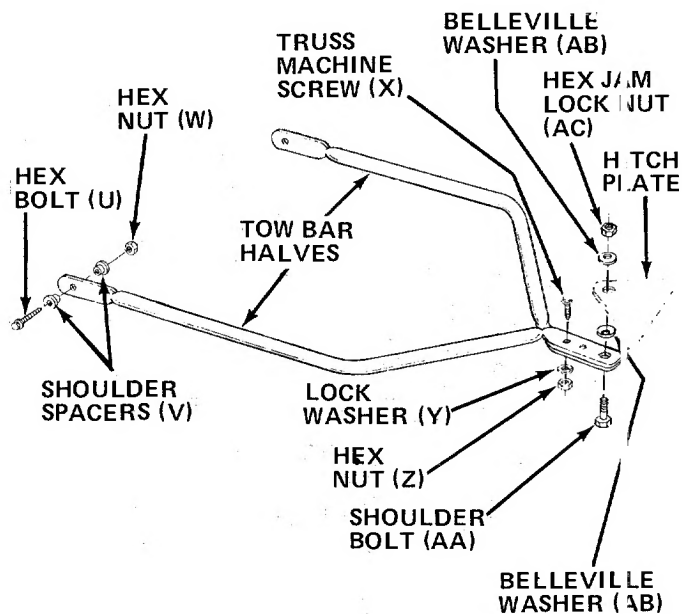

FIGURE 15
2. Place tow bar half in position on frame. Place one shoulder spacer (V) between frame and tow bar. Next, place shoulder spacer (V) and hex bolt (U) through tow bar and frame. Secure with hex nut (W). See figure 15. Repeat for other side.
3. Secure the two tow bar ends together with truss machine screws (X), lock washers (Y) and hex nuts (Z). See figure 15.
To attach the tow bar to a hitch, place the shoulder bolt (AA) up through the tow bar. Place one belleville washer (AB) on the shoulder bolt, then the hitch plate and the other belleville washer. Cupped side of the washers must be against the hitch plate. Secure with hex jam lock nut (AC). See figure 15.